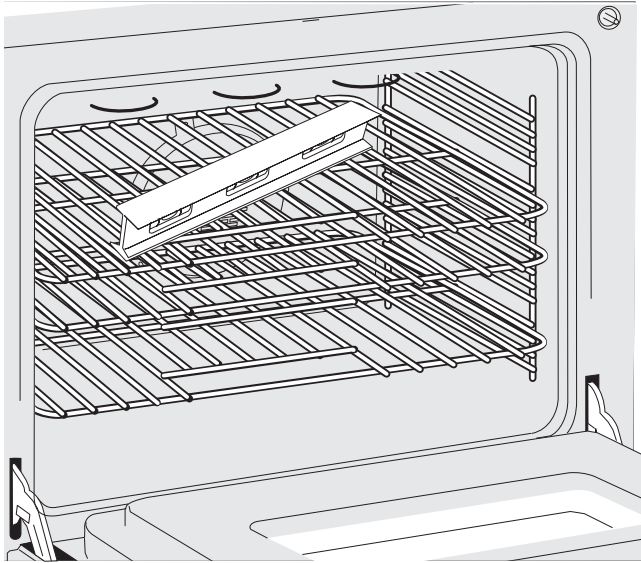

Figure 20: Use the oven racks to level appliance
2. Place a level on the rack (Figure 20). Take 2 readings with the level placed diagonally in one direction and then the other.